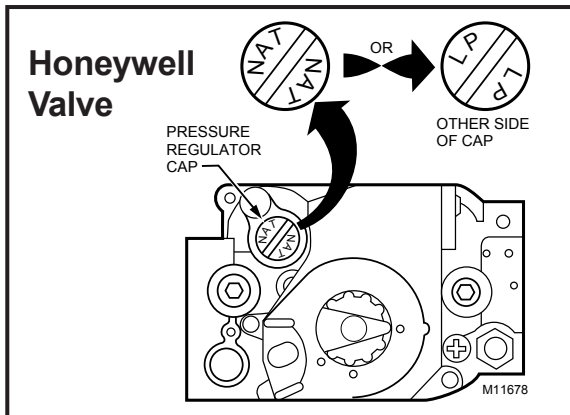

Figure 23. Convertible Pressure Regulator Cap
3. For the conversion to the alternate fuel, the gas valve regulator cap must be turned over, as shown in Figure 23. You will unscrew the cap and reinstall for your installation. After reinstalling the cap, you will be able to read "NAT" for the conversion to natural gas or "LP" for the conversion to LP gas.
7. After the flame ignites, visually inspect the burner assembly to ensure that the flame is drawn directly into the center of the heat exchanger tube, as shown in Figure 23. The end of the flame will be out of sight around the bend of the heat exchanger tube. In a properly adjusted burner assembly, the flame color should be blue with some light yellow streaks near the outer portions of the flame.